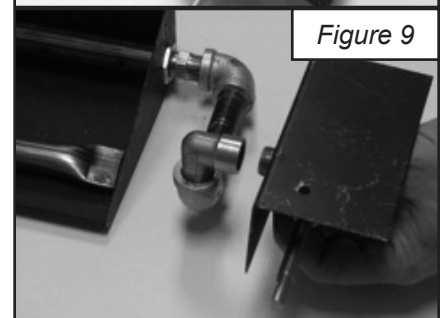

Figure 9
- I. Attach the control valve & heat shield assembly to the 90 degree street Elbow. (See Figures 9 & 10)